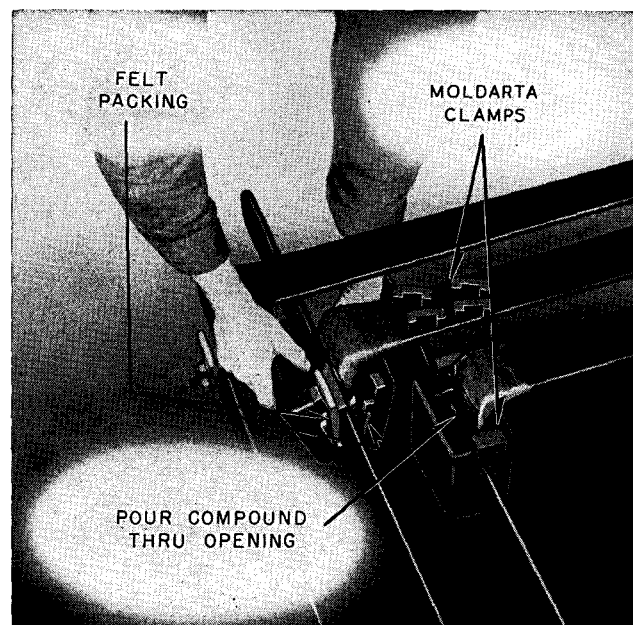

FIG. 26. Installation of Compound Box
3. Install compound boxes over the joint as shown in Figure 26. Boxes are held in place by means of four molded clamping members which slide over matching tapered lugs on the two halves of the box. In installing the clamps note the taper and slide them over the lugs on the box from the center out. A light coating of varnish should be applied to the wedge before clamping to seal it in place. Pressure of a thumb and finger is sufficient to clamp the box in place.